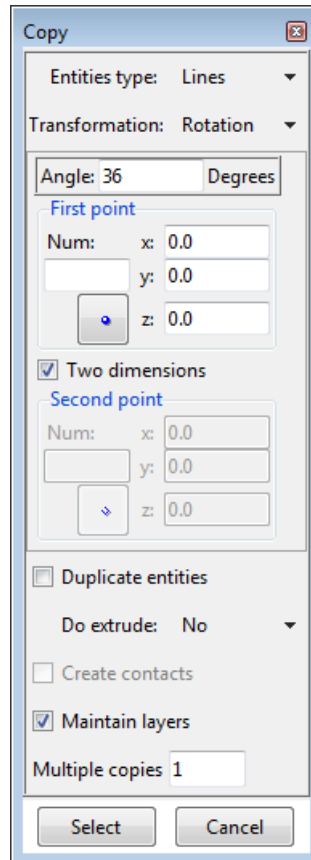

Figure 7. The copy window
- 1 . Use the **Copy** window, located in **Utilities->Copy** (see Figure 7).